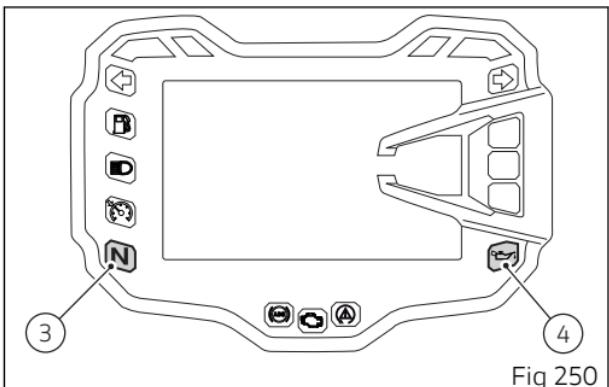

Fig 250
The red oil pressure warning light (4, Fig 250) should go out a few seconds after the engine has started. The engine will shut off by turning the red button (1) on the handlebar to RUN OFF. To turn on the "Hands free" system and all electronic onboard systems, refer to page 223 "Hands Free System".